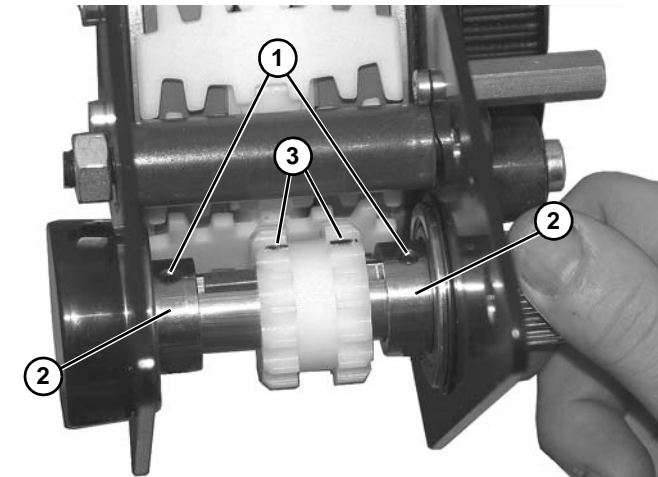

Figure 134
14. Loosen two set screws (**Figure 134, item 1**) on two bearings (**Figure 134, item 2**).
15. Loosen sprocket set screws (**Figure 134, item 3**).